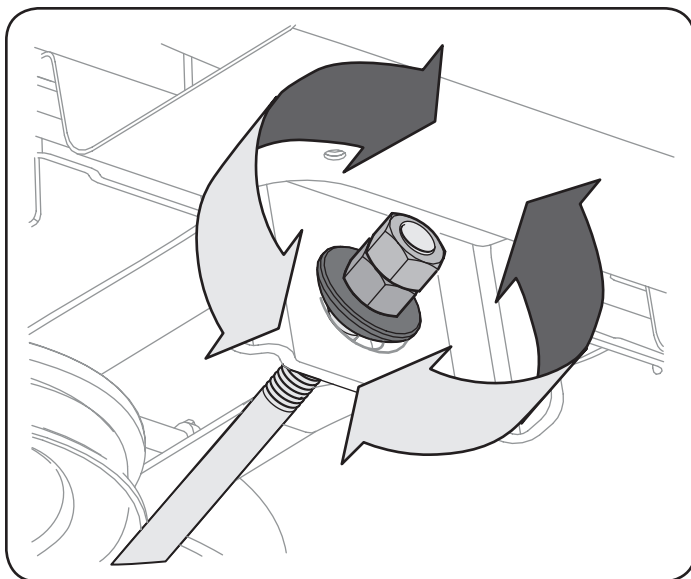

Figure 18
4. To raise the front of the deck, loosen the outer nut then tighten (thread inward) the nut against the front hanger bracket. See Figure 18. When proper adjustment is achieved, re-tighten the outer nut to 25-30 ft.-lbs.
5. To lower the front of the deck, loosen the outer nut then loosen (thread outward) the nut, away from the front hanger bracket. See Figure 18. When proper adjustment is achieved, re-tighten the outer nut.